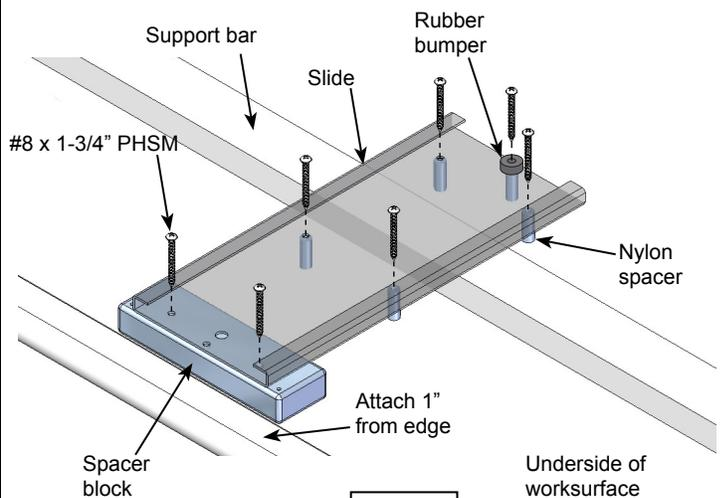

Figure 2B
3. Place the spacer block and (5) nylon spacers under the tray as shown **Figure 2B.**
4. Attach the slide, spacer block, and nylon spacers using (6) #8 x 1-3/4" PHSM screws and tighten securely.